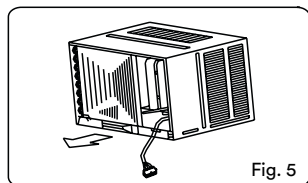

Fig. 5
1. Grasp the handle on the chassis and carefully slide the air conditioner out of the cabinet (See Fig. 5).